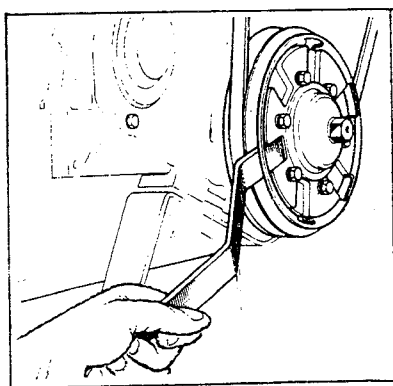

FIG. 24
**TO ADJUST VALVE CLEARANCES:** (Note . . Adjustments should be made while engine is at normal operating temperature). Following removal of rocker arm cover and tightening cylinder head bolts as described above, actuate the engine stop control lever so engine will not start and revolve crankshaft (Note: 4 cylinder models are fitted with a barring plate at crankshaft pulley, figure 24) until numbers 1 and 6 valves (on 4 cylinder) or numbers 1 and 4 (on 6 cylinder) are opened by their respective rocker arms.